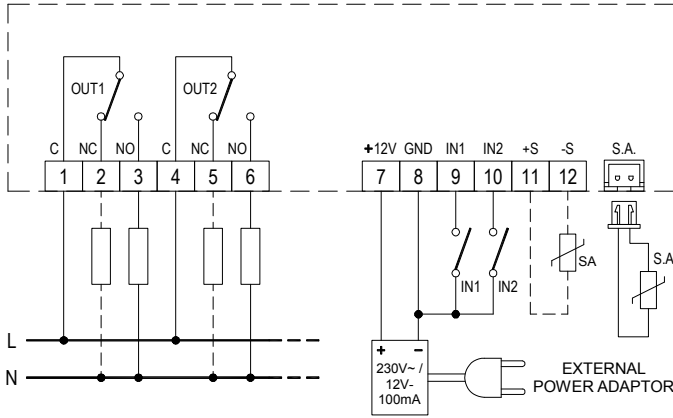

Fig. 7: Connection diagram.
- ⑤ Make the electrical connections according to the most suitable wiring diagram (see Fig. 7 - 8 and the paragraph "electrical connections").
Follow the connection layout shown in Fig. 7.
To be able to get a room temperature reading it is necessary to connect an external sensor to the "SA" connector (Fig. 7) or, alternatively, connect the 2 wires to terminals 11 and 12.